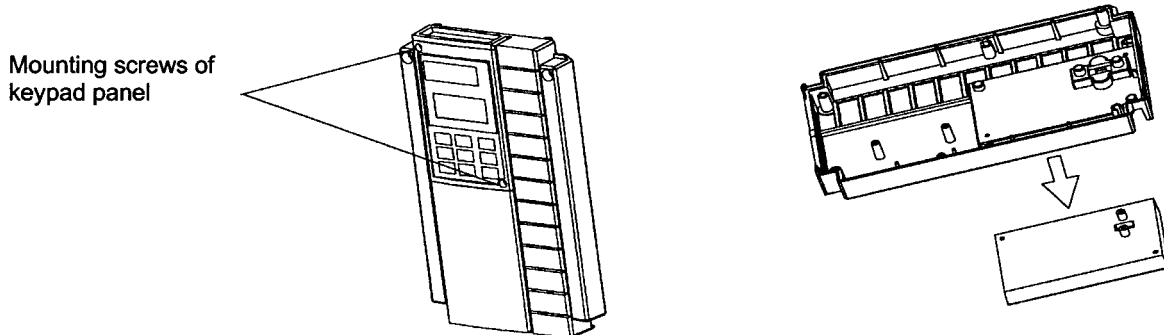

Fig.1-3-3 Removing the keypad panel
(2) Removing the keypad panel
After removing the surface cover as explained in (1), loosen the mounting screws of the keypad panel and remove as shown in Figure 1.3.3.